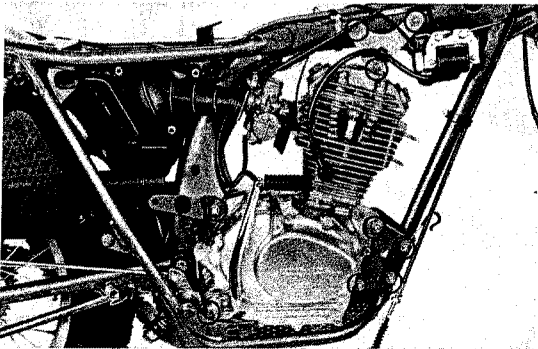

Fig. 28 ○ = Engine hanger bolts
12) Remove the nuts from the engine hanger bolts. Lift the rear of the engine just enough to remove load from the hanger bolts; pull off the bolts. (Fig. 28)